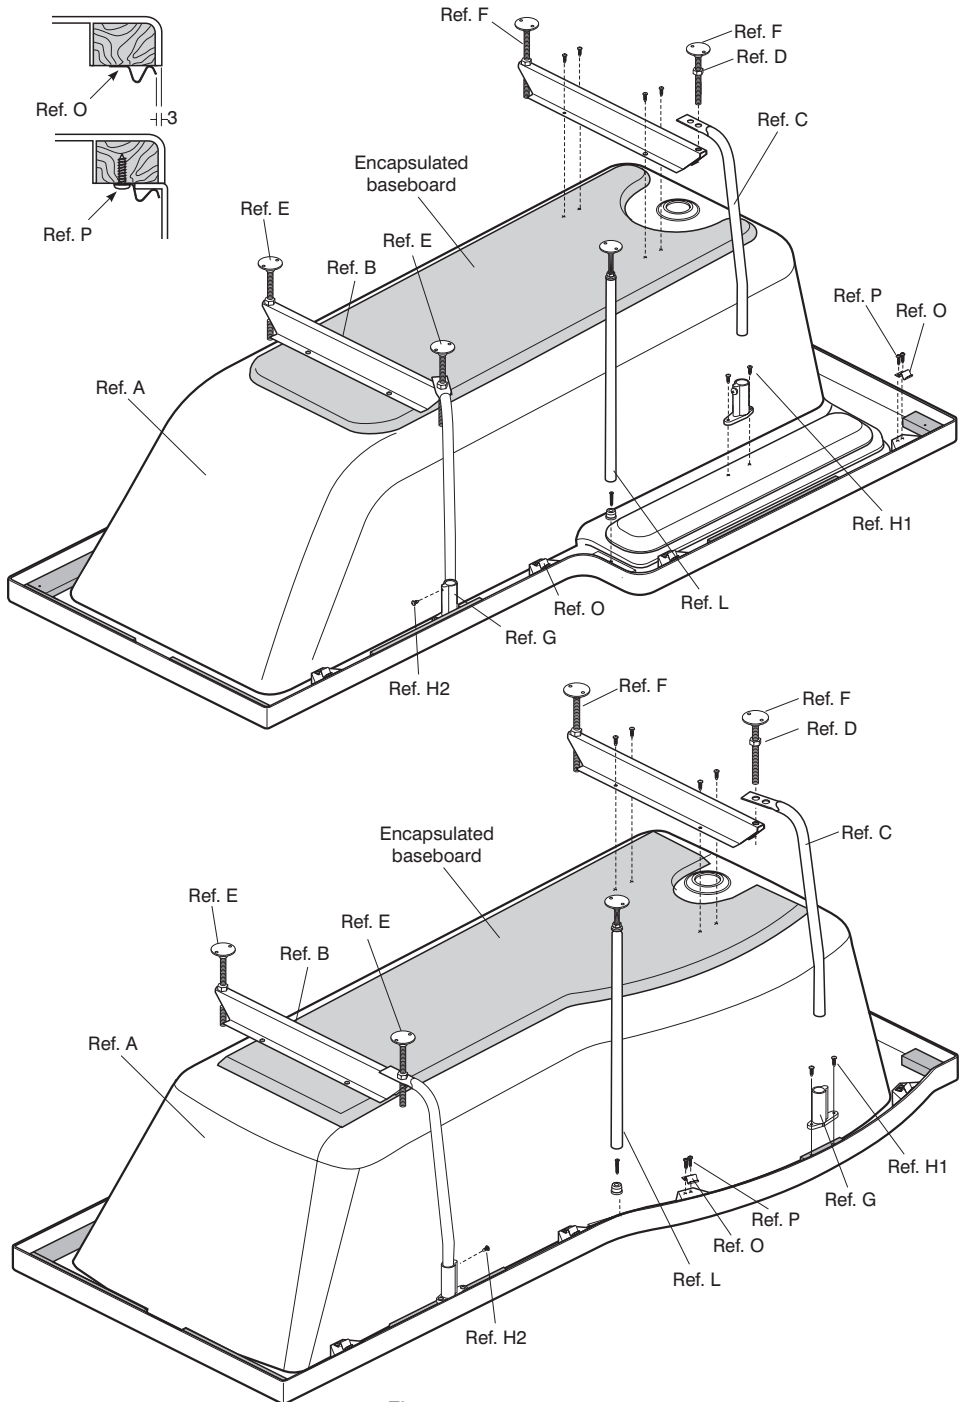

Figure 2
1. Lay bath face down onto a protective surface so as not to damage the bath. Fix leg adjusters, (Ref. G) onto bath into predrilled holes using screws (Ref H1). Assemble legs as shown in Fig 2.
7. Fit the single support leg black end cap in a suitable area on the framework, Figs. 2 & 3.